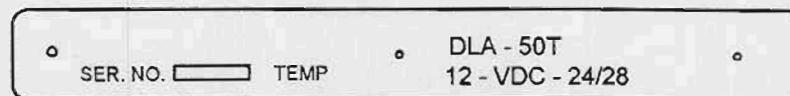

Figure 1-7. Data plate.
- (2) The manufacturer data plate, located on the control panel, is depicted in figure 1-7.